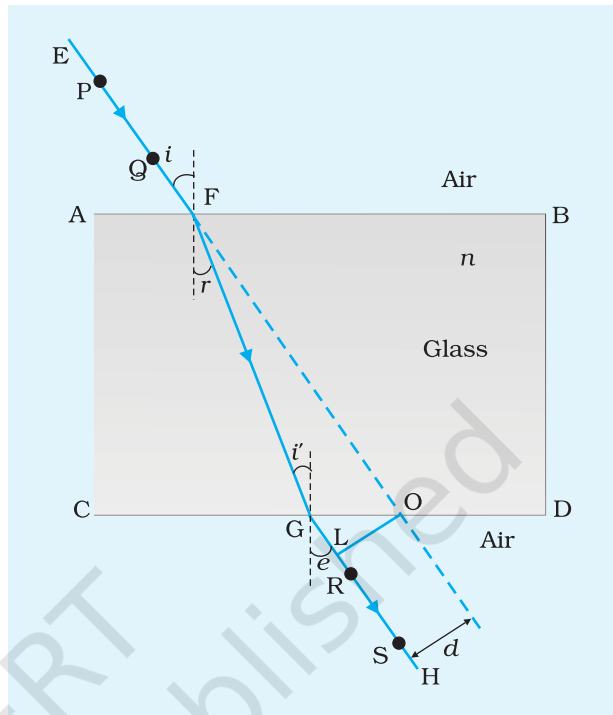

Fig. A10.1 Refraction through a rectangular glass slab
2. Place the glass slab lengthwise symmetrically at the centre of the paper sheet and mark its boundary ABCD (Fig. A10.1) on the paper sheet with a sharp pencil.